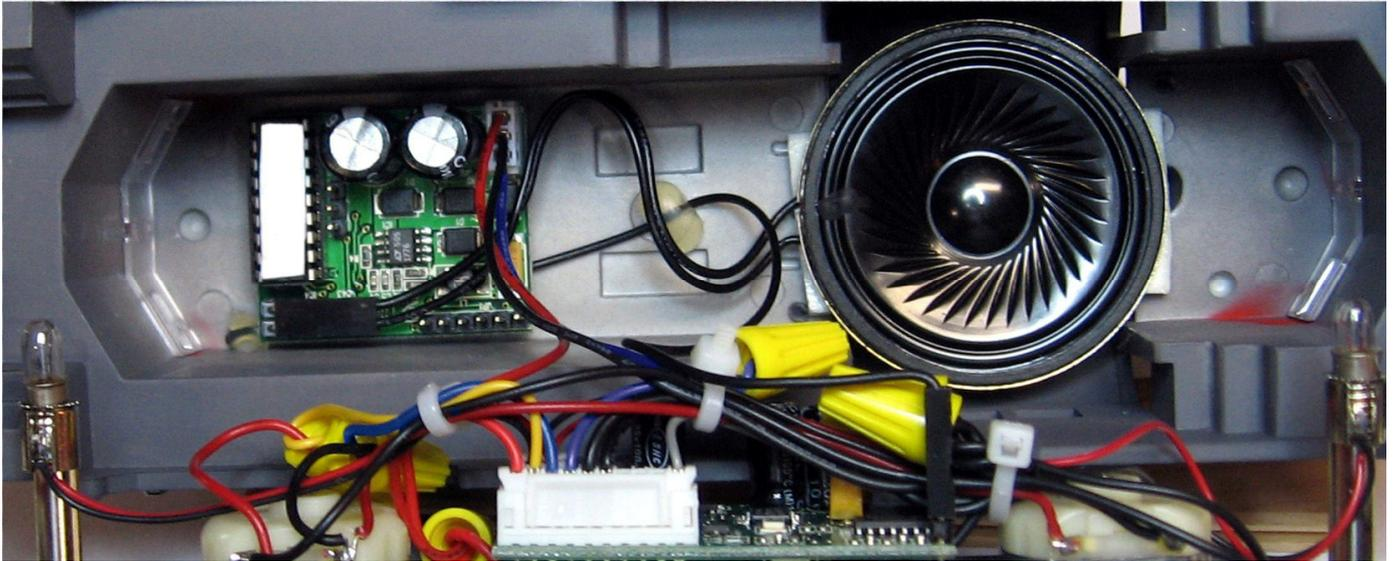

Figure 15 – Ready for shell installation
9. Refer to Figure 15 and connect the antenna wire to the Mini Commander 2 circuit board. Next, connect the 3 position wire assembly to the Sound Commander 2 circuit board.